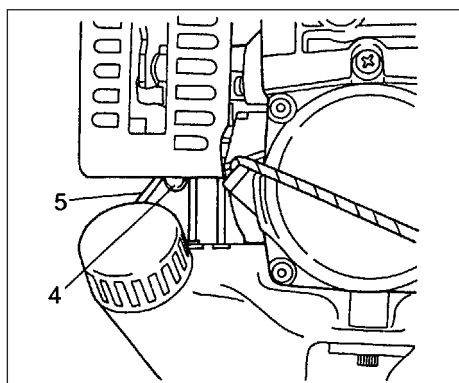
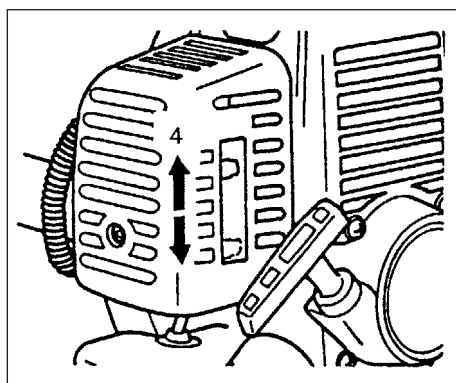

Fig. 2-2C
Fig. 2-3
* Push priming bulb (4) several times so that fuel flows through return pipe (5) (If so equipped) (Fig. 2-2C)
2. With the safety trigger (2) pressed (if so equipped), pull throttle trigger and push throttle lock (3), then slowly release the throttle trigger first, then the safety trigger. This will lock the throttle in starting position.
3. Set choke lever to CLOSED position (4). (Fig. 2-3)